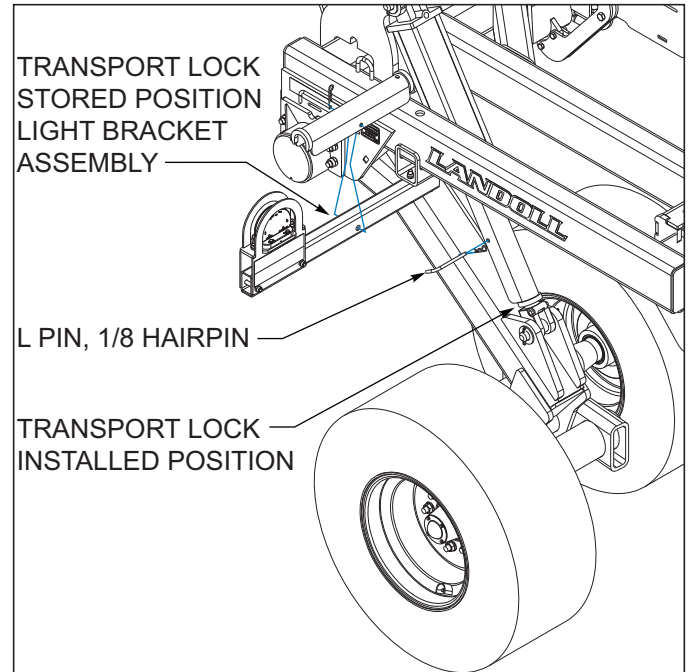

Figure 4-13: Transport Locks
9. Remove the transport locks from the light bracket assemblies. Install transport locks on both lift cylinders. Do not depend solely on implement hydraulics for transport *See Figure 4-13.*